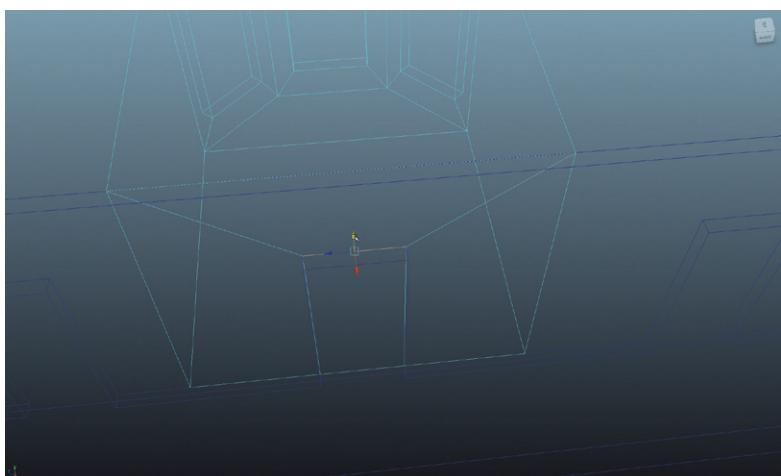

FIG 3.32 Adjusting (in Edge Mode) the edges of the room to match the hallway. Be sure to snap to vertex to make this match exact.
Step 47: Adjust the room’s doorway to match the hall’s. Do this in Edge Mode (right-click the room object and choose Edge from the Hotbox). Again, use Snap to Vertex (hold v) to snap each edge of the room to the corresponding edge of the hall’s doorway (Fig. 3.32).